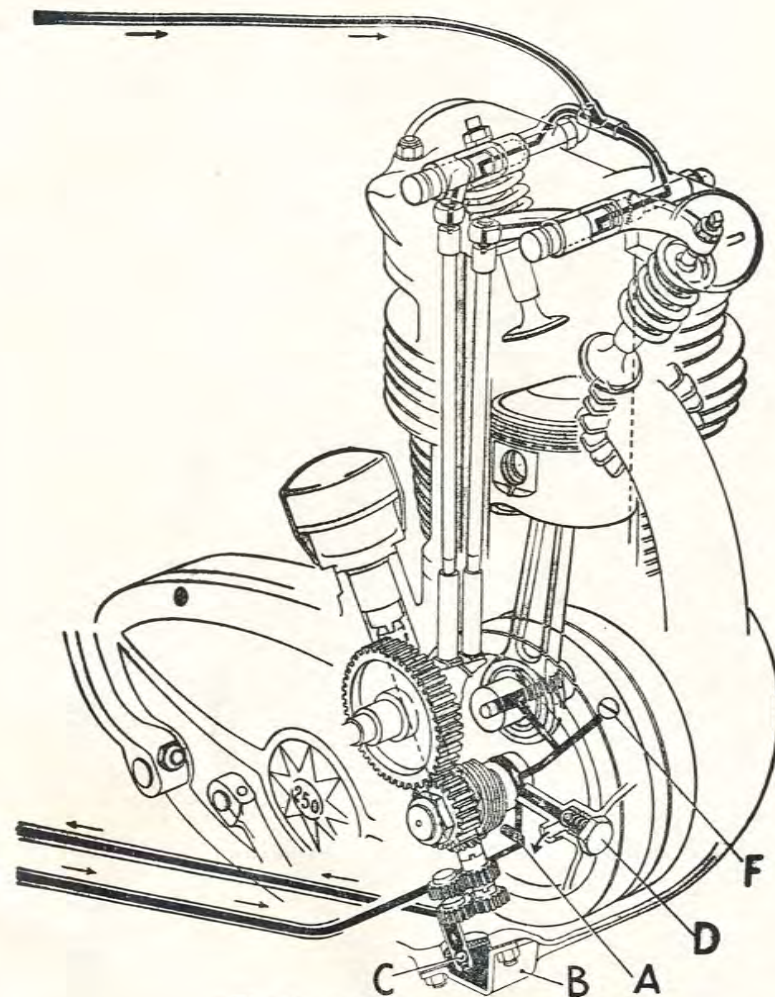

Fig. 3. Lubrication System.
The lubrication system is of the dry sump type and is operated by a double gear pump situated in the bottom of the crankcase on the right-hand side. (See Fig. 3). The oil tank capacity is four pints and oil is drawn from the oil tank to the supply pump (top set of gears). It is then pumped past the non-return valve (A), and along the hollow mainshaft to the big-end.